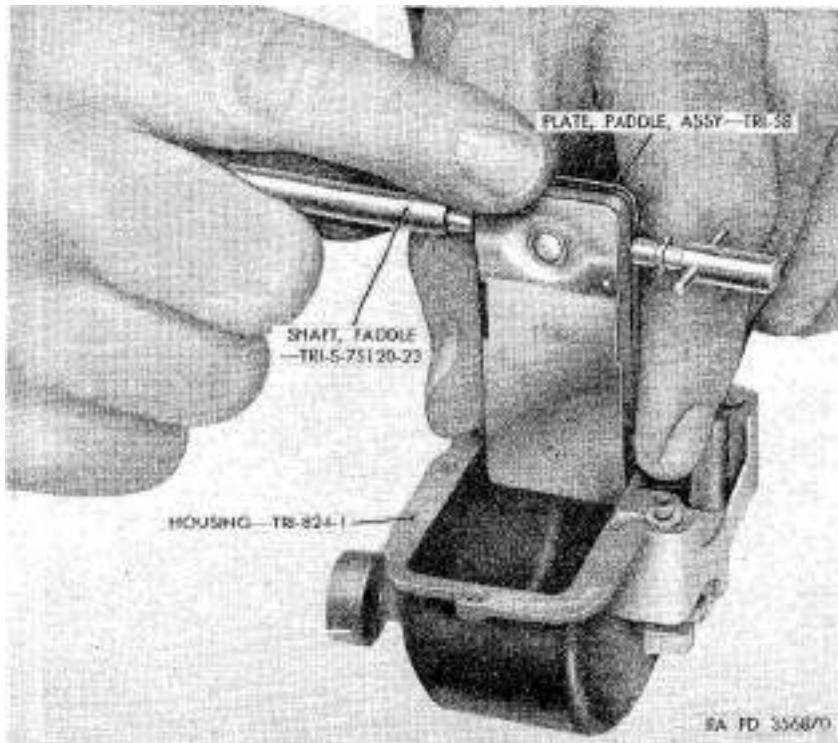

Figure 197. Inserting paddle plate and shaft assembly.
- (2) Insert kicker (L), with escapement spring attached, in opening provided in housing at valve side (flat side of kicker toward housing).
- (3) Spread Trico-Wiper lubricant lightly on inside walls of housing. Insert paddle plate assembly (KK) and paddle shaft (FF) by holding fingers at edge of housing and forcing paddle straight down between fingers as shown in figure 197 to prevent damaging of paddle seal. Place hooked end of kicker (L) over paddle shaft (FF) as shaft is being positioned.